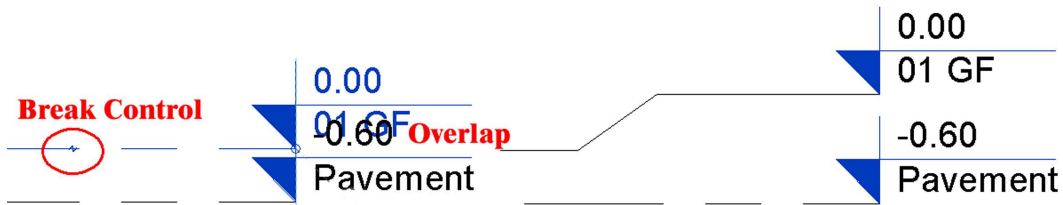

Fig. 1.15 – Elbow in Level Line
2. You will see a Break Control on the Level Line (Fig. 1.15).
6. Align bend points of all levels (Fig. 1.15).